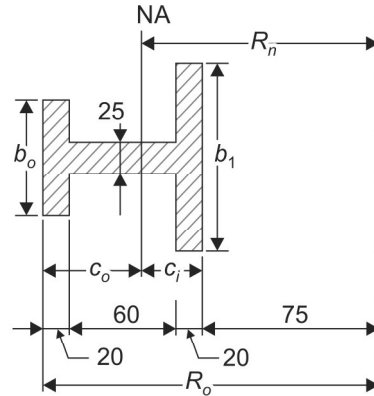

Fig. M1.23
39. Determine the dimensions of I-section shown in Fig. M1.23 in which the maximum fiber stresses are numerically equal in pure bending, given $b_i + b_o = 120$ mm. (10 Marks)